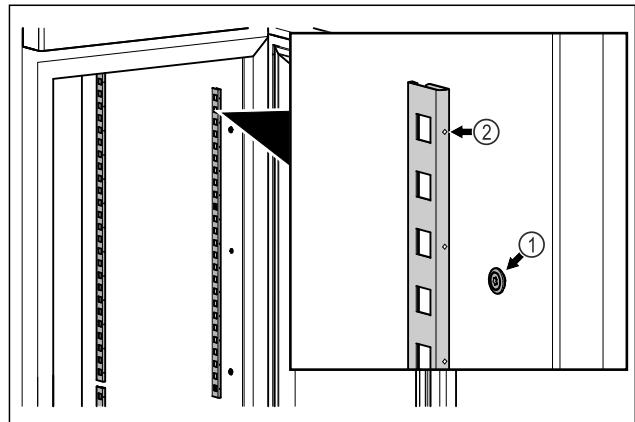

Fig. 85 Example illustration
- ▶ Hook the snap strips into the suspension Fig. 85 (1). Mark Fig. 85 (2) must point forward.